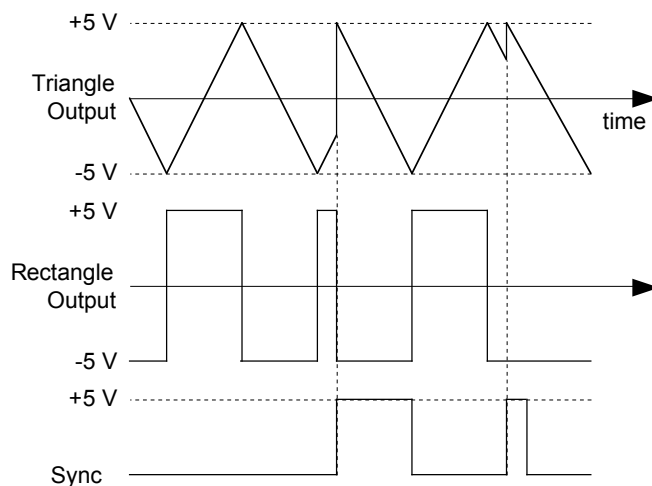

Fig. 9.4.2 LFO-synchronisation
The rearpanel socket **"SYNC" (6)(TIP)** contains a sync-input for the LFO. It's functionality is explained in Fig. 9.4.2